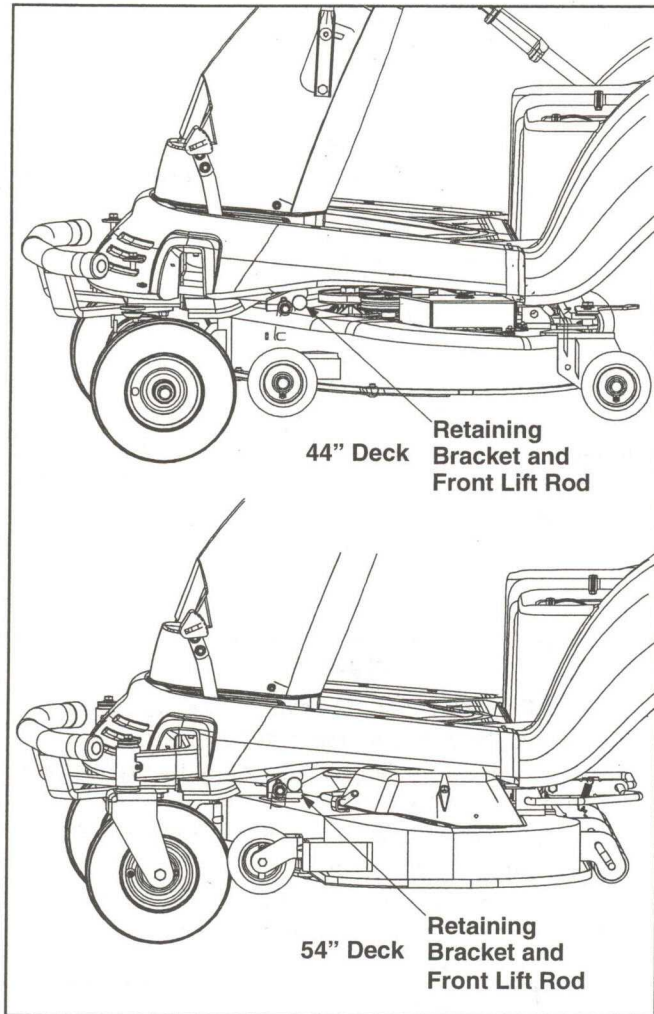

Figure 25
- From the right side, pull the mower deck out from under the tractor. See Figure 25.
- Slide the mower deck backwards to insert the front lift rods into the brackets. See Figure 25.